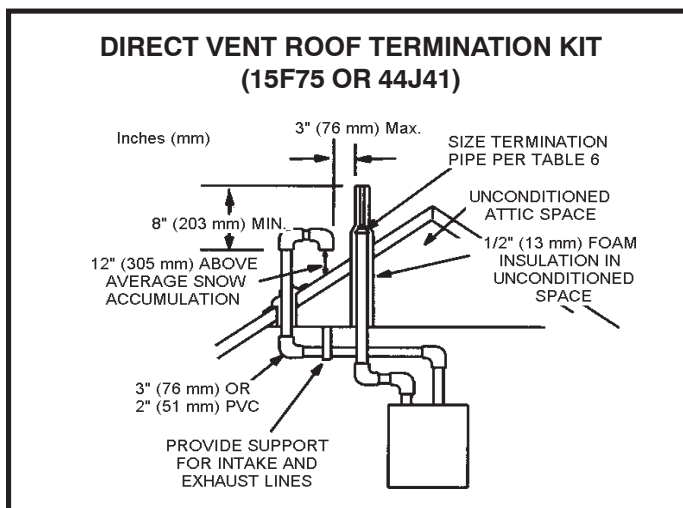

Figure 20
Intake and exhaust pipes may be routed either horizontally through an outside wall or vertically through the roof. In attic or closet installations, vertical termination through the roof is preferred. Figures 20 through 25 show typical terminations.
3. On roof terminations, the intake piping should terminate straight down using two 90° elbows (See Figure 20).